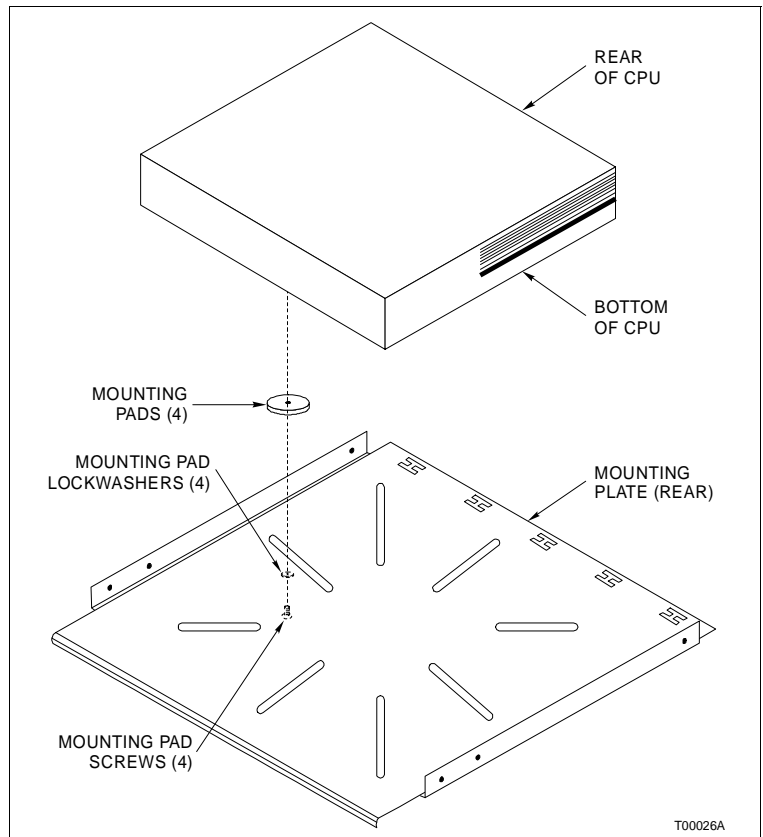

Figure PR22-5. Mounting CPU on Mounting Plate (Typical)
- 7. Place the CPU on the mounting plate so that the screw holes in the mounting pads properly align with the slots in the mounting plate (Fig. PR22-5).